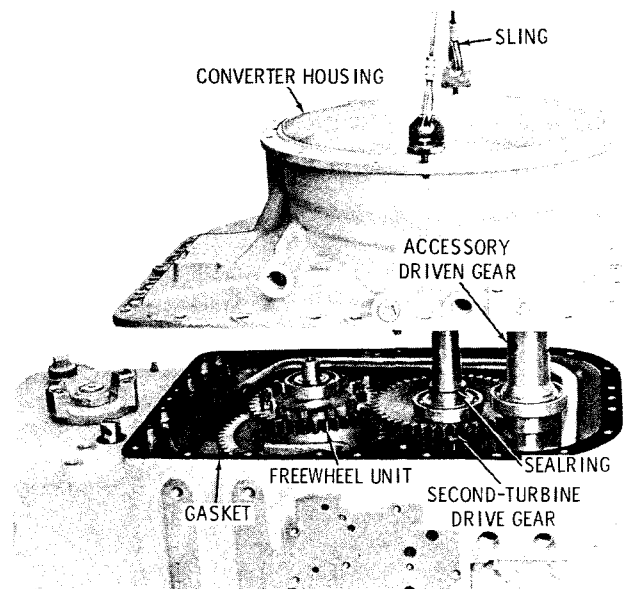

Fig. 5-13. Removing torque converter housing
(3) Remove the torque converter housing assembly and gasket (fig. 5-13). Refer to paragraph 6-6 for rebuild of the torque converter housing assembly.